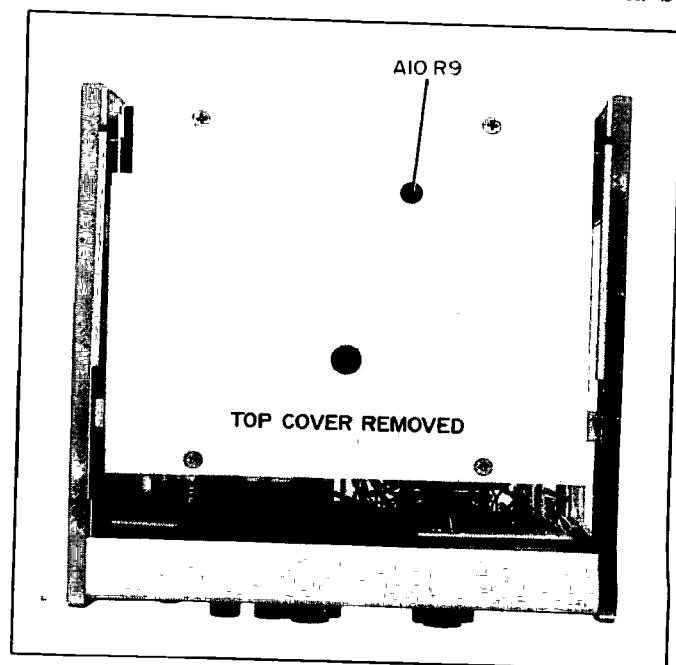

Figure 5-1. 4329A Adjustment Locations
c. Set MODE to "MEASURE" and RANGE to I_{MAX}, and apply 200mV dc to the UNKNOWN Rx(-) BNC connector (center conductor is positive and outer conductor is negative) using suitable regulated power supply and attenuator combination. Note the deflection and set it to full-scale using AMP, SENS, ADJ. A10R9 (Remove top cover for access to adjustment through hole in circuit shield. See Figure 5-1). Disconnect 200mV.